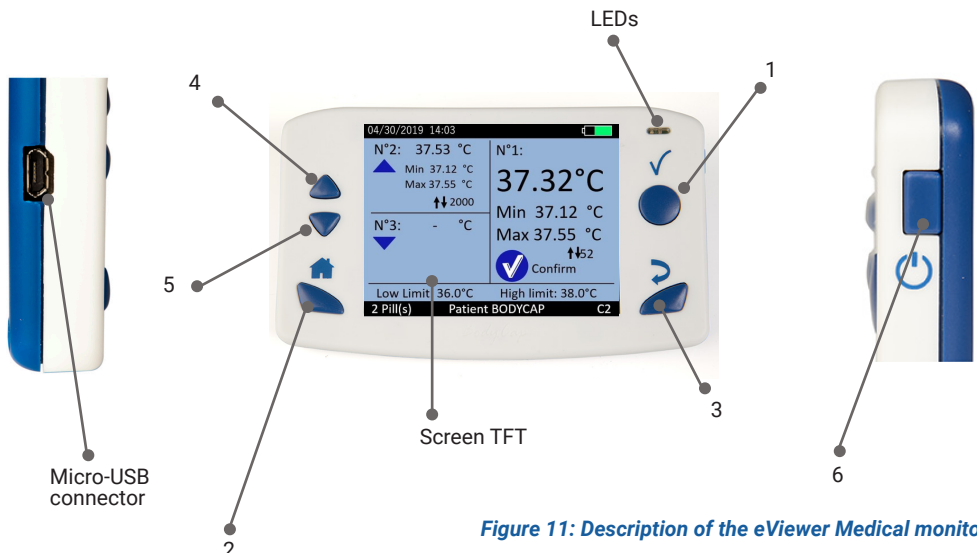

Figure 11: Description of the eViewer Medical monitor
The button Validate (ref. 1 Fig. 11)
The button Home (ref. 2 Fig. 11)
The button Back (ref. 3 Fig. 11)
The button Arrow up (ref. 4 Fig. 11). This button Allows to get in the menus.
The button Arrow down (ref. 5 Fig. 11). This button allows to down in the menus.
The button sleep-wake of the screen (ref. 6 Fig. 11).
When the Green LED is lit, it means that the monitor is connected to a power source. Its battery is therefore being loaded. When the battery is fully charged, the green LED goes out. When the monitor is off, the orange LED lights indicate that the pressure on the side button has been considered (ref 6 fig.11).